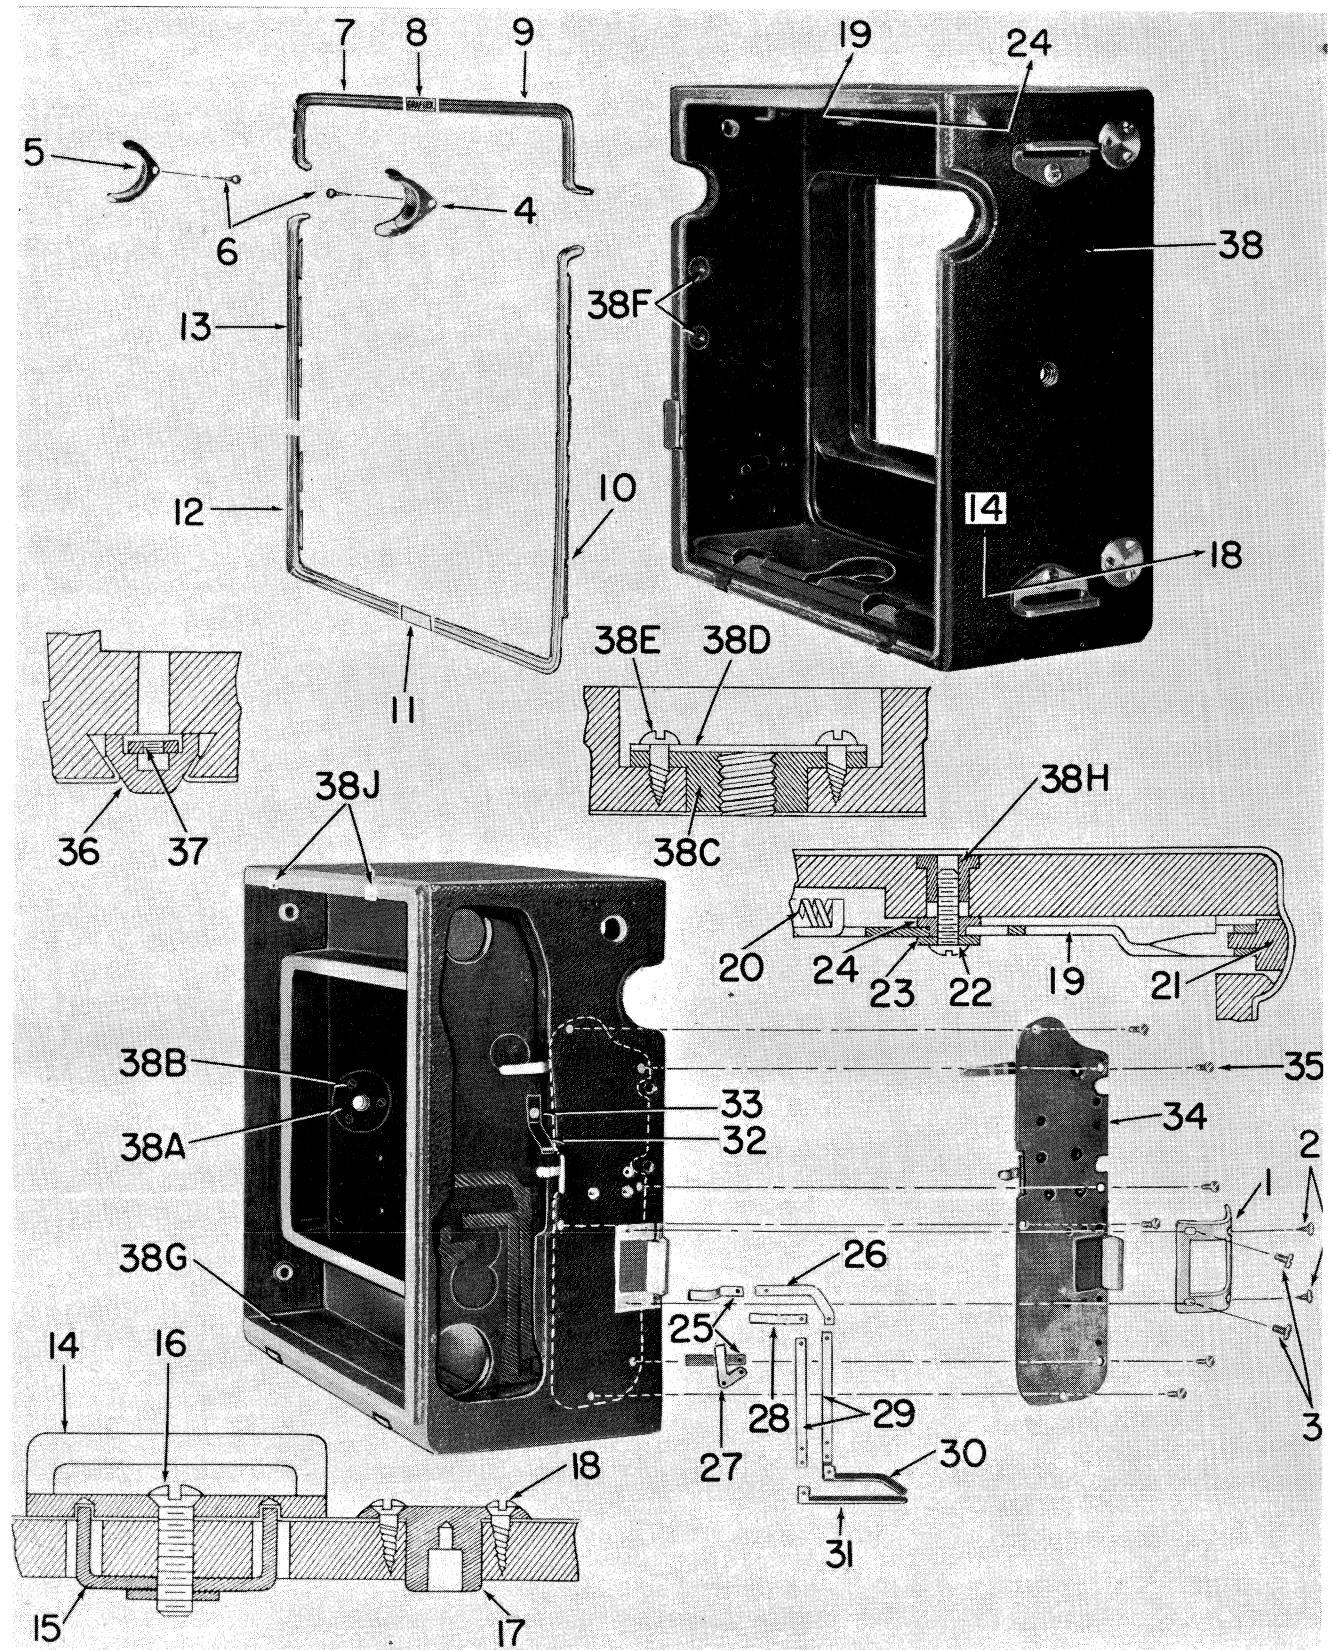
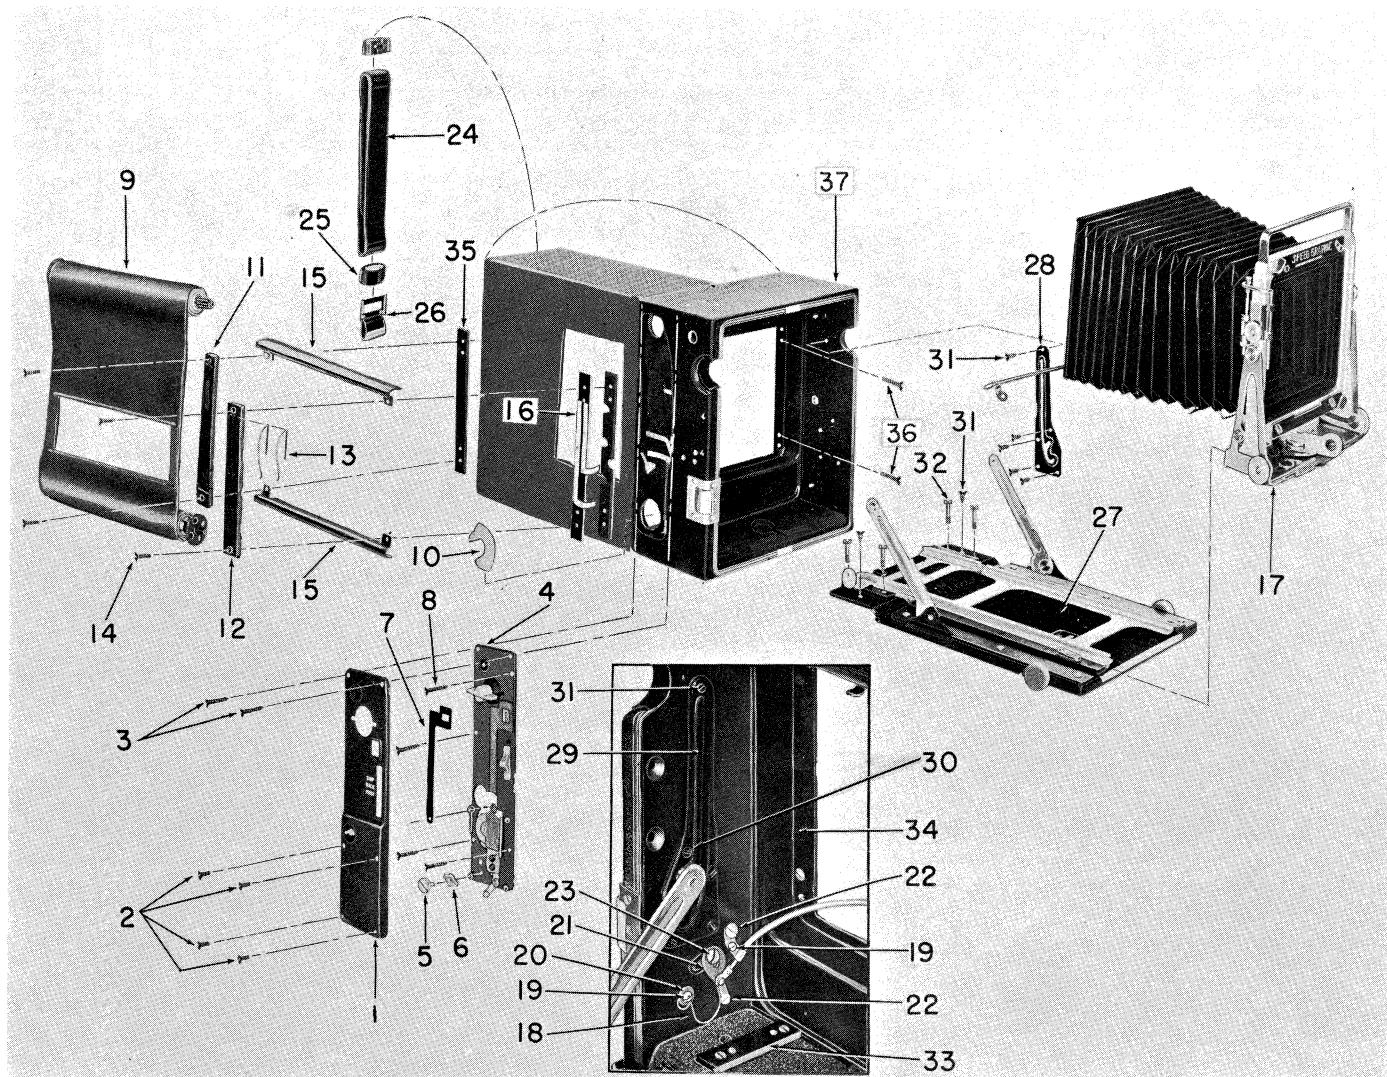

Figure 12. Body, Exploded View
Figure 2. Camera Basic
(c) From the bed hinge, remove two wood screws (31, figure 2). Remove four yoke guide case screws (32) that are screwed into machine nuts (37, figure 12) located in the case feet (36).
(a) Place the bed in position in the camera case and reassemble four yoke guide case screws (32, figure 2) that are screwed into the machine nut (37, figure 12) located in the foot (36). Assemble two wood screws (31, figure 2).
(a) Remove the release slide plate (1, figure 12).
(f) Remove six wood screws (35, figure 12) that secure the body release plate assembly (34), and remove the plate assembly.
(a) Before replacing the body release plate assembly (34, figure 12) the mounting holes that are used to mount the rangefinder base and housing should be covered with transparent tape to prevent the tapped holes from becoming plugged with adhesive.
2. To remove the bottom tripod socket it is first necessary to remove the bed assembly (27, figure 2) as described in paragraph VI.A.1. Remove three round head wood screws (38E, figure 12) and remove the cover plate (38D) and tripod socket (38C).